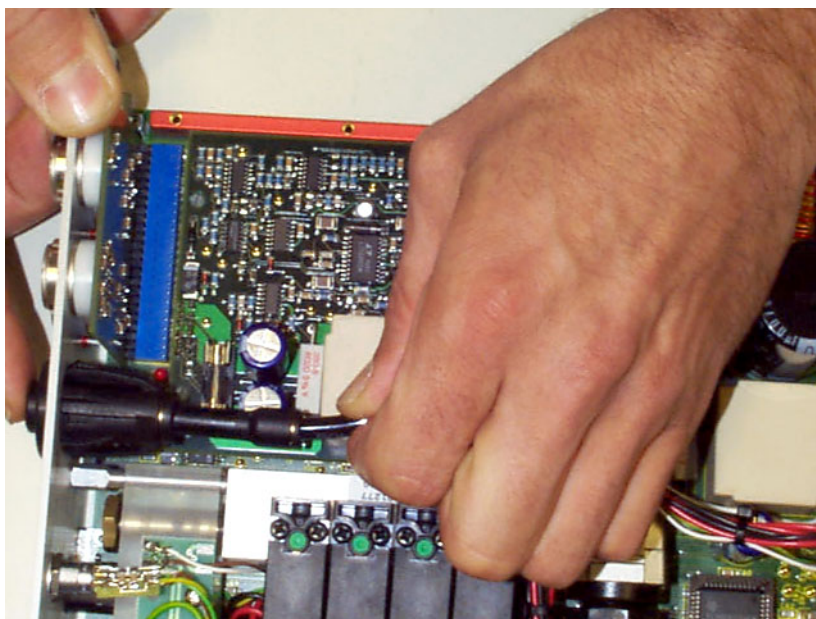

Figure 2.5. Gas connection
6. Plug the gas tube as shown in picture 3 (see **Figure 2.5.** on **page 21**).